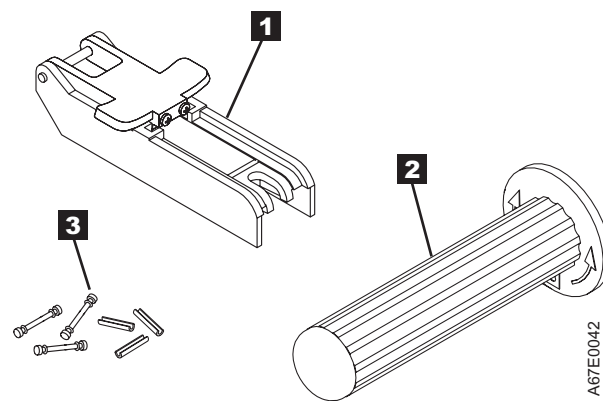

Figure 9-11. Leader Pin Reattachment Kit
- **Leader pin attach tool (1)** in Figure 9-11). A plastic brace that holds the cartridge door open.
- **Cartridge manual rewind tool (2)** in Figure 9-11). A device that fits into the cartridge's hub and lets you wind the tape into and out of the cartridge.
- **Pin supplies (3)** in Figure 9-11). Leader pins and C-clips.